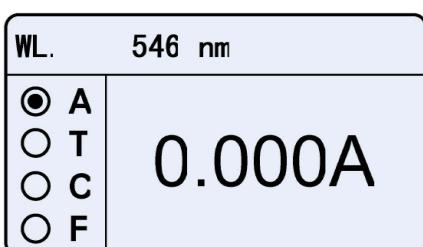

Fig. 4-1
1) Press to choose «A» mode (Fig.4-1).